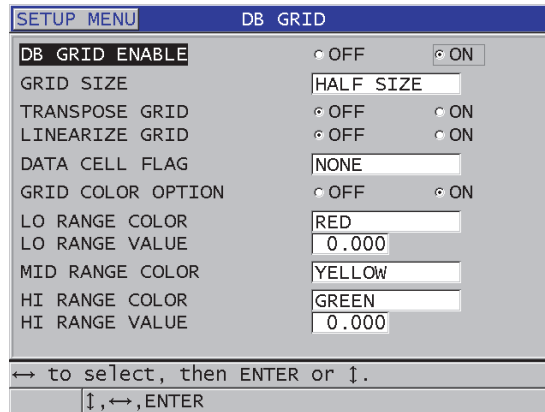

Figure 10-9 Changing DB grid parameters
3. In the **DB GRID** screen (see Figure 10-9 on page 166), perform the following steps.